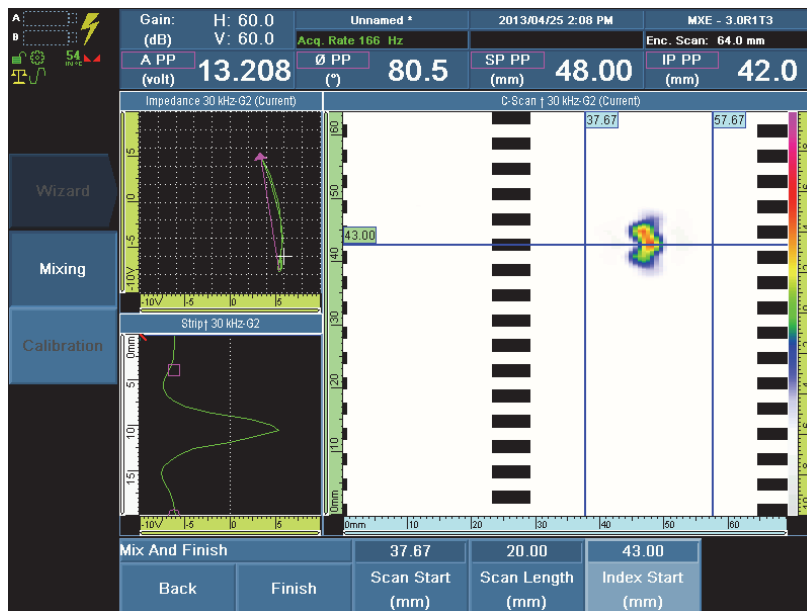

Figure 9-13 Positioning the measurement cursors in the Mix and finish step
start cursor before the defect, at a distance equal to the length of the defect (see Figure 9-13 on page 143).
11. Scan the good fastener, and then the defective fastener on the calibration sample. The signal of both fasteners in the views should be weak (see Figure 9-13 on page 143).
1. Select **EC Settings > Settings (MAIN) > Gain (dB)**, set the value to expand the signal to ensure that it spans approximately 6 grid divisions in the impedance plane view, and then press the Accept key to confirm. Typically, the **Gain (dB)** parameter value can be increased by 10 to 20 dB (see Figure 9-13 on page 143).
3. Move the origin towards the center in the impedance plane view by using the **H&V Position** submenu parameters. Select **EC Settings > H&V Position > Gain (dB)**, and then change the parameters as follows (see Figure 9-13 on page 143):